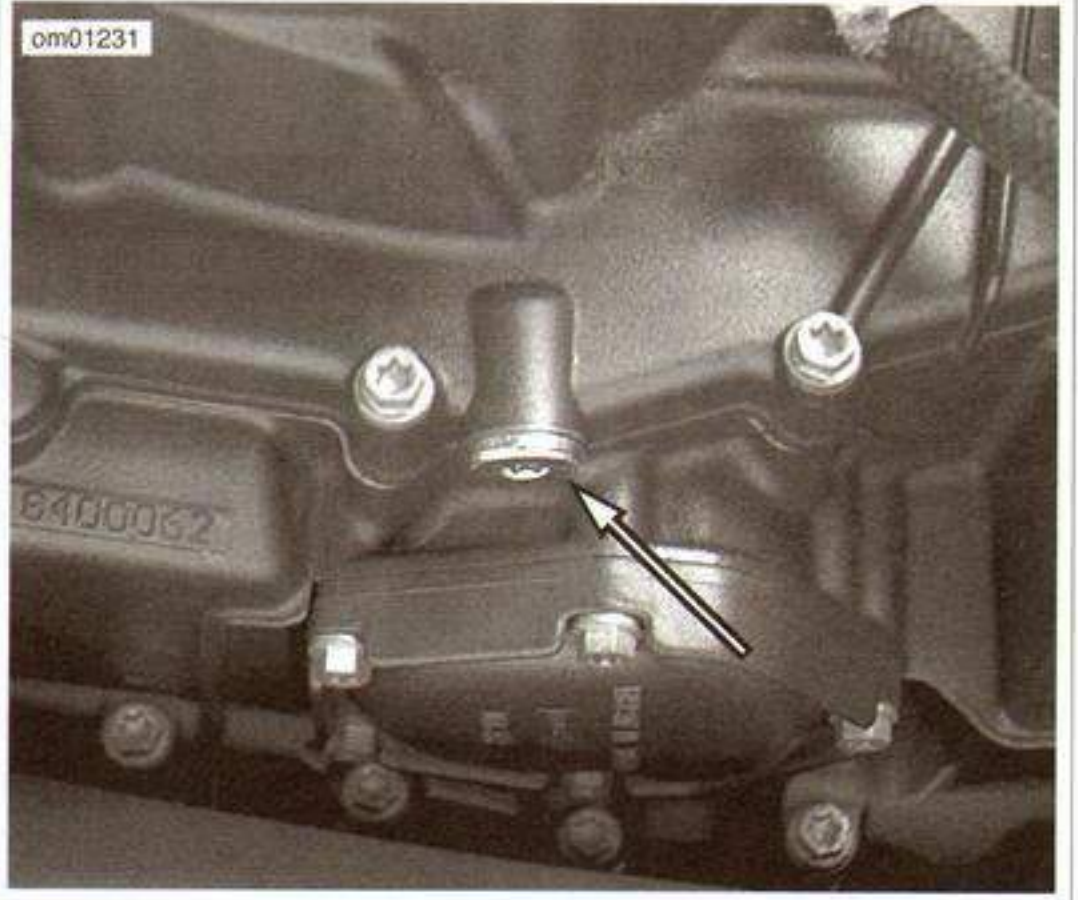

Figure 1-4. Engine Oil Drain Plug (Right Side): Buell 1125 Models
4. See Figure 1-4. Remove the right oil drain plug located under the clutch cover. Wipe any accumulated debris from plug and replace the aluminum washer.